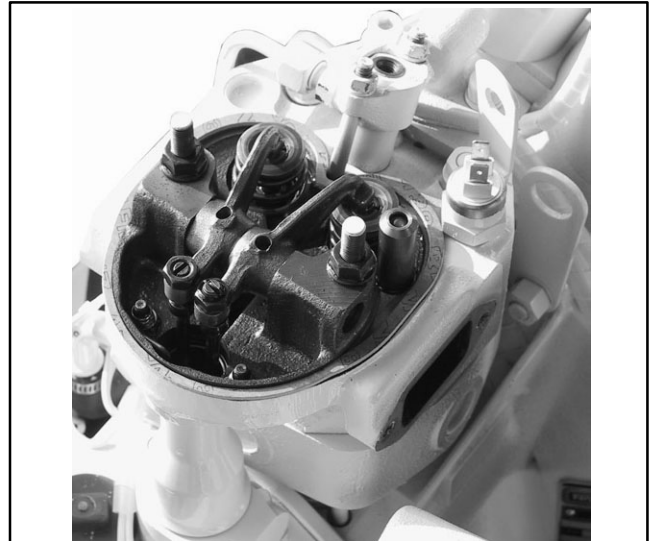

Figure 10-98 Valve Cover Gasket
1. Install the valve cover gasket on the upper surface of the head. See Figure 10-98.